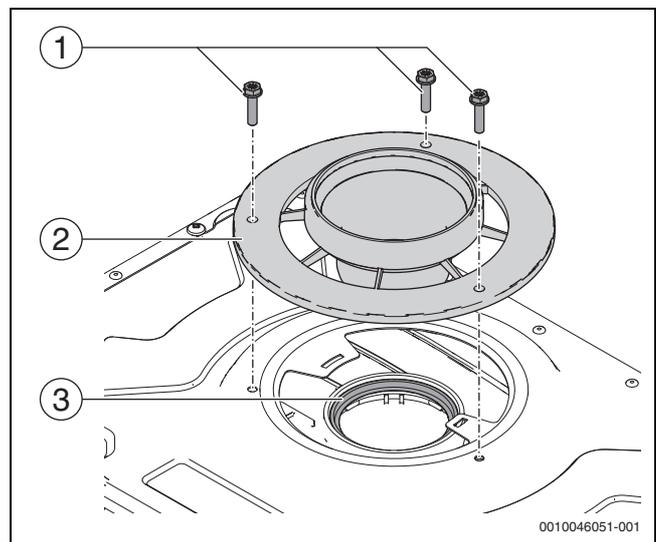

Fig. 168 Disassembly of the flue adaptor and the flue kit
- ▶ Place the flue adaptor and the flue kit on the top panel (→ Figure 168, [2]).
- ▶ Tighten three screws (pozi or hexagon) (→ Figure 168, [1]). Do not over-tighten.